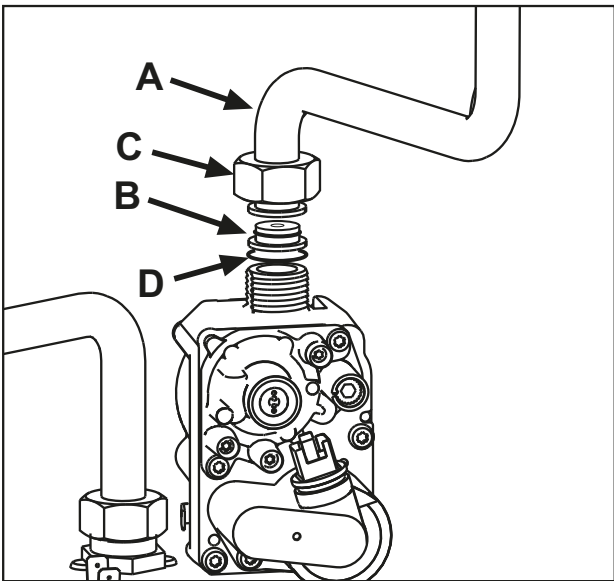

fig. 22
3. Unscrew ring C and remove gas pipe A from the gas valve (see fig. 22).
4. Replace nozzle B inserted in the gas pipe with that contained in the conversion kit, interposing seal D (see fig. 22).